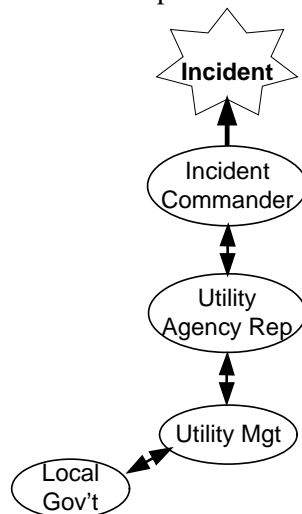

Figure 6: Utility Agency Representative Reporting as Part of City/County Government
While command remains in the field with the Incident Commander (IC), for a utility that is part of a city or county government, the utility management may activate a Department Operations Center or Utility Operations Center to rally resources of the department to coordinate its response. The utility department may have to coordinate its response with other portions of the local government. *See Figure 6.*